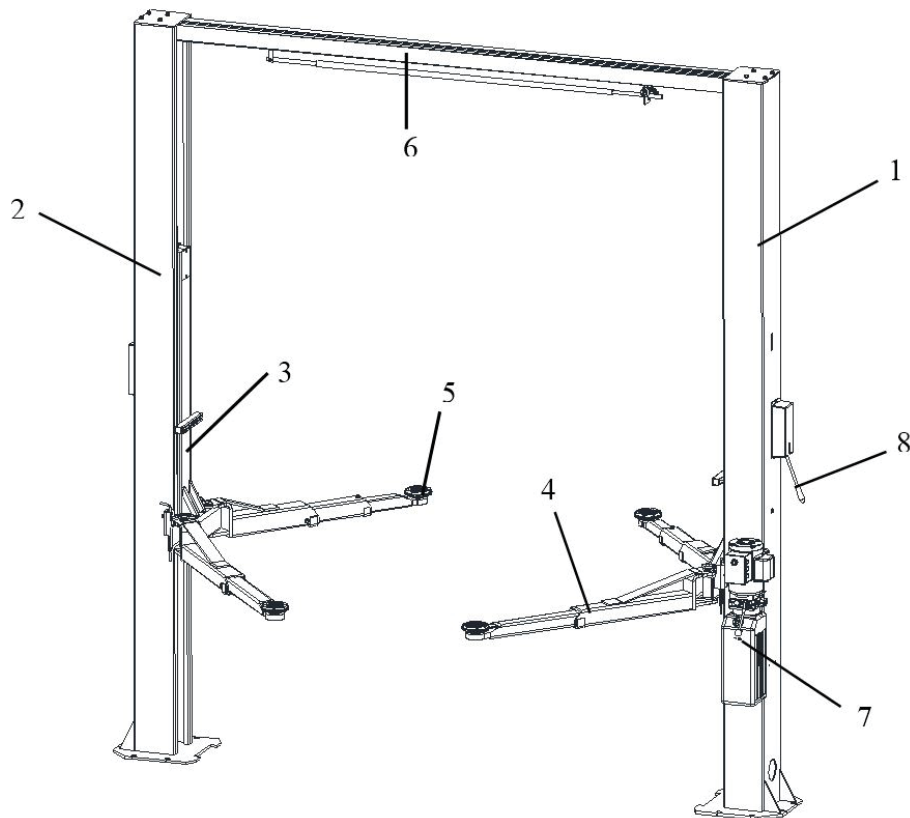

Figure 2 – Lift
This chapter describes the lift's principal elements, allowing the user to be familiar with the machine. As shown in figure 2, the lift is composed of two columns: power-side column (1) and off-side column (2), each equipped with a carriage (3) and a pair of lifting arms (4) with the adapter (5) anchored to the ground by means of base plates. The overhead beam (6) is equipped with the anti-crush safety bar and an overhead cut-off switch for protection of the vehicle roof. Raising motion is carried out by pushing the lifting button on a power unit (7) which delivers the hydraulic fluid to cylinders inside the columns to act on the chain system to raise the lift. Lowering the vehicle by pushing down the lowering handle on the power unit while holding down the safety lock handle (8). The synchronization is controlled by the equalizer cables. The arm safety can be engaged automatically when the lift is raised.